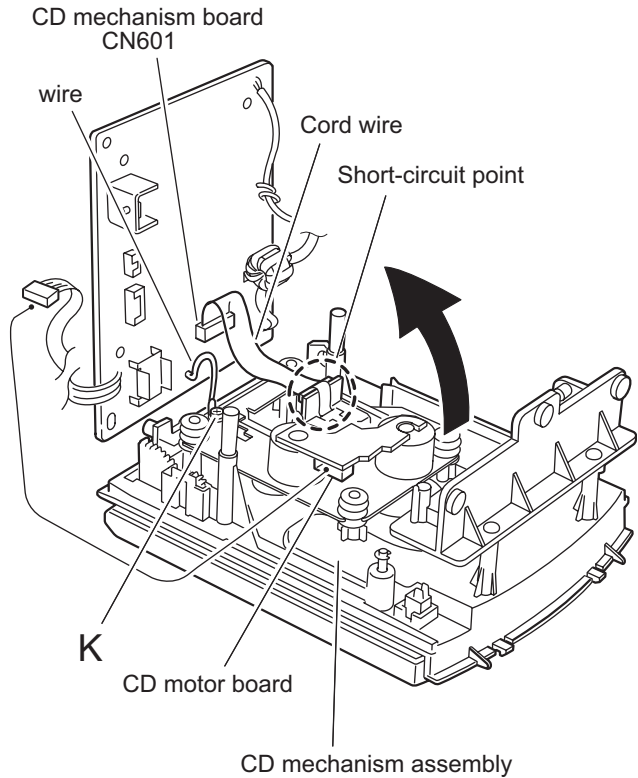

Fig.12
- (1) Disconnect the wire from connector on the CD motor board.
- (2) Remove the four screws J attaching the CD mechanism board.
- (3) Move the CD mechanism board temporarily as shown in Fig.12.
- (4) Remove the screw K attaching the wire to the CD mechanism.
- (5) Solder the short-circuit point on the CD pickup board.
- (6) Disconnect the card wire from connector CN601 on the CD mechanism board.